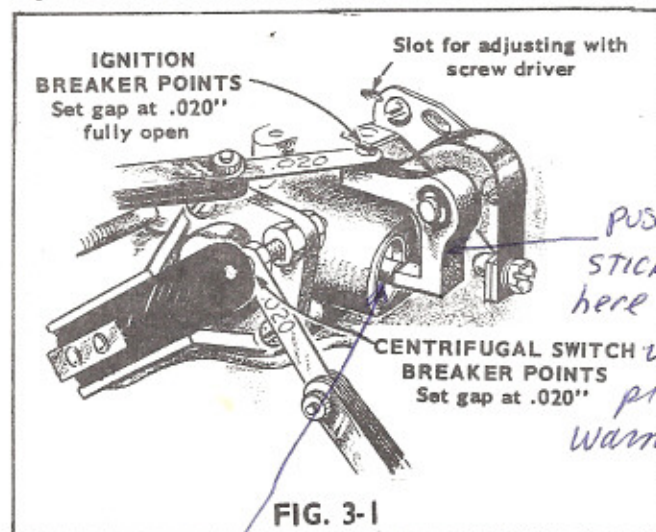

FIG. 3-1
If a false start occurs with a starter motor equipped plant, make sure the centrifugal switch (Fig. 3-1) closes during speed build-up.
closing! See fig 3-1 p. 13
- (1) The centrifugal switch, Fig. 3-1 is wide open when engine is stopped. Loosen and move stationary contact to correct gap.
- (2) Ignition breaker points, Fig. 3-1 must be correctly gapped. Crank engine to fully open breaker points (1/4 turn after top center). Loosen and move stationary contact to correct the gap at full separation. Retighten contact and re-check gap.